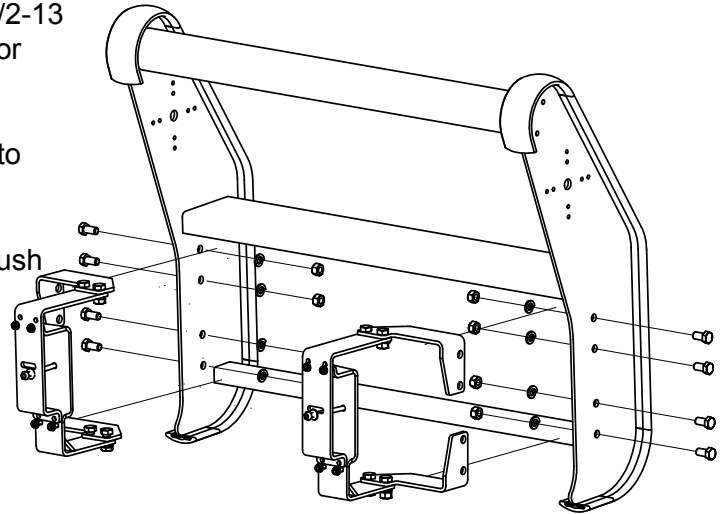

Figure 4.
C. Lift the universal push bumper (4PB1300) into place aligning the two lower holes of the push bumper with the holes located in brackets 3PBK4714-05/06. Secure the brackets to the push bumper with the provided 1/2-13 bolts, lock washers, and nuts. See figure 4.